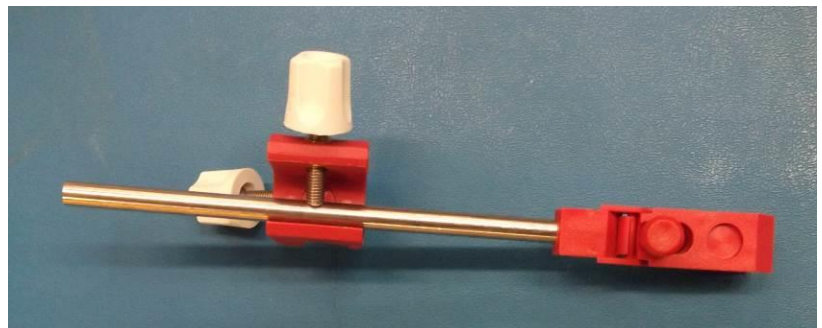

Figure 3. Install a Clamp on Each of the Two Equipment Clamps
2. Locate the two Equipment Clamps (C) and install a Clamp (B) on each (Figure 3). Tighten the Thumbscrew.